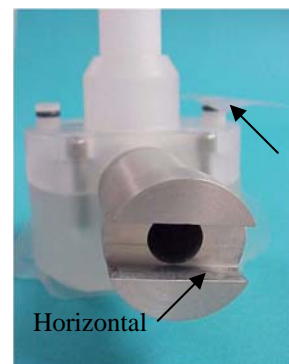

Figure 2
Step 3) Turn the aluminum shaft to the horizontal position such that the ball valve would be in the fully open position. Refer to Figure 2.